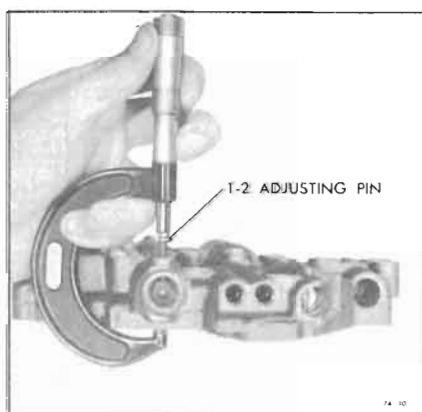

Figure 74-610
12. If removal is necessary, the exact position of the adjusting screw is determined before removal by using 1" to 2" micrometer and measuring from the top to the adjusting screw (remove burrs from adjusting screw) to the machined surface of the valve body and remove the screw if necessary. See Figure 74-610.